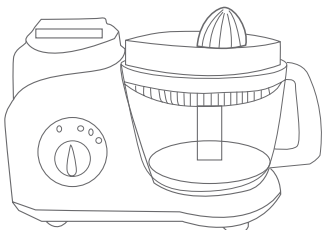

Fig. 8
2. With the empty processor bowl locked in place take out of the blade shaft and insert the juicer drive shaft to replace the blade shaft.(Fig.8)